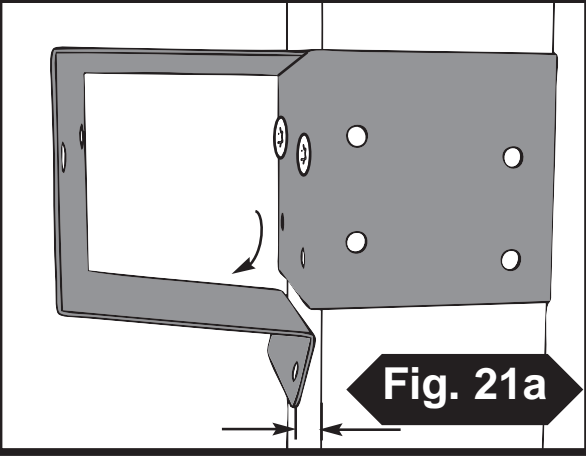
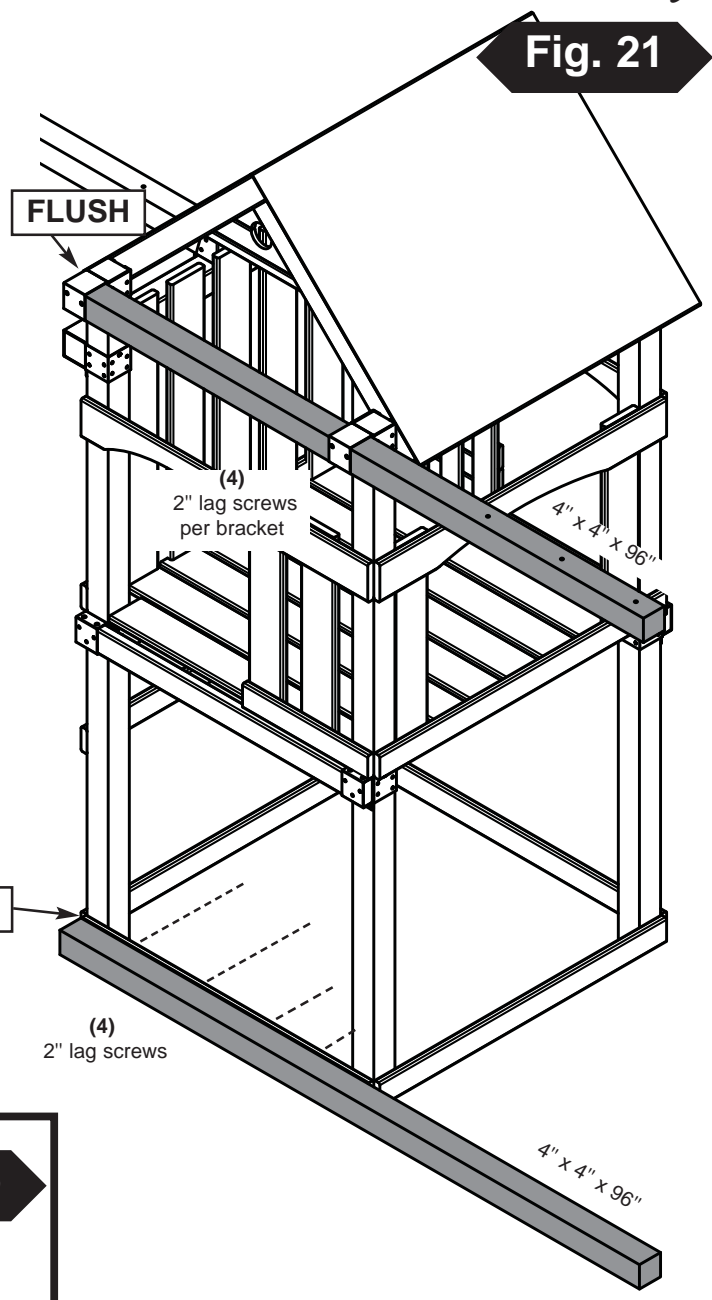

Fig. 21a
Fig. 21
1. Work 4" x 4" into brackets as shown in **(Fig. 21)** and **(Fig. 21a)**.
3. Attach accessory 4" x 4" to base board as shown in **(Fig. 21)**.
Note: Refer to (**Fig. 21**) for accessory arm placement.